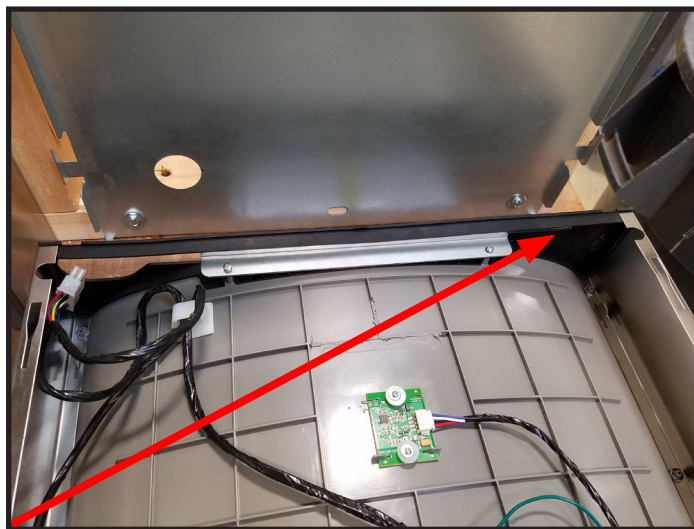

**FIG. 2**
- 5) Secure cooler frame to wall by installing (2) screws and washers (not supplied) in lower holes. (See Fig. 2, Pg. 5). Make sure the screws engage in a structural member.